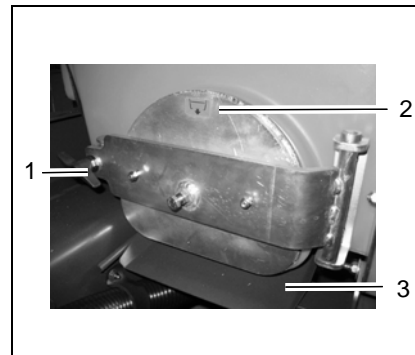
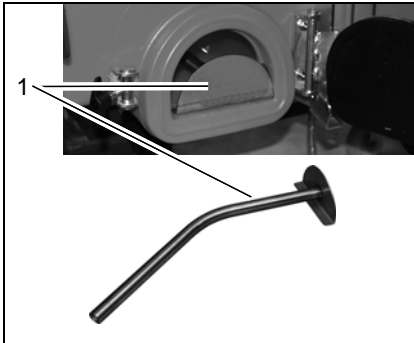

Fig. 27
Fig. 28
3. Pull out the run-off plate (Fig. 27/3).
4. Release the flap lock: turn the wing nuts (Fig. 27/1) counterclockwise.
5. Open the cleaning flap (Fig. 27/2). In the recovery tank a tube (Fig. 28/1) is located. This tube serves to support the membrane wall.